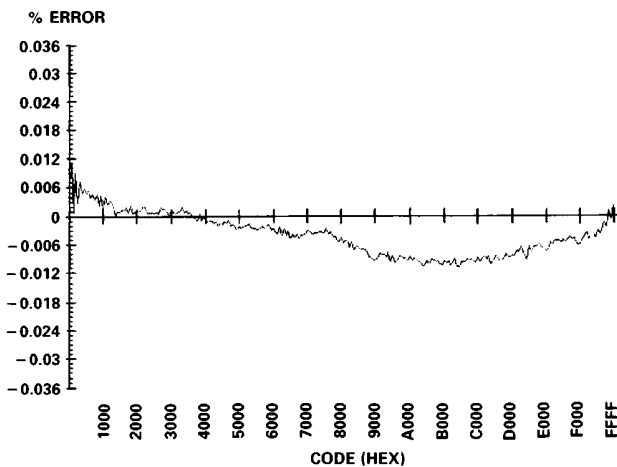

Figure 4. Typical Linearity
**LINEARITY ERROR:** Analog Devices defines linearity error as the maximum deviation of the actual, adjusted DAC output from the ideal output (a straight line drawn from 0 to FS-1LSB) for any bit combination. The AD569's linearity is primarily limited by resistor uniformity in the first divider (upper byte of 16-bit input). The plot in Figure 4 shows the AD569's typical linearity error across the entire output range to be within ±0.01% of full scale. At 25°C the maximum linearity error for the AD569JN, AD and SD grades is specified to be ±0.04%, and ±0.024% for the KN and BD versions.